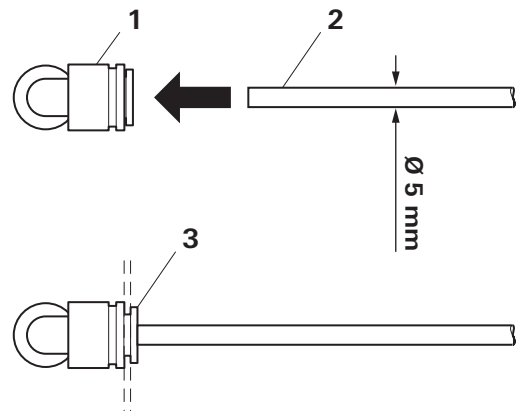

Fig. 45
- ▶ Fasten the fuel line to the tank fitting and cut to length (Fig. 45).